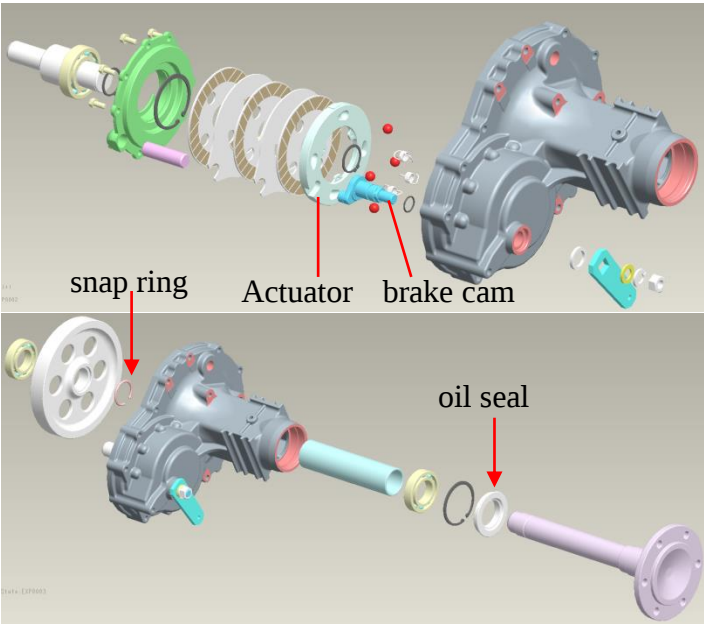

Fig.7-5
- 7)Remove the snap ring of wheel pinion (Fig.7-5) And individually separate the friction plates,actuator and separator plates from each other.